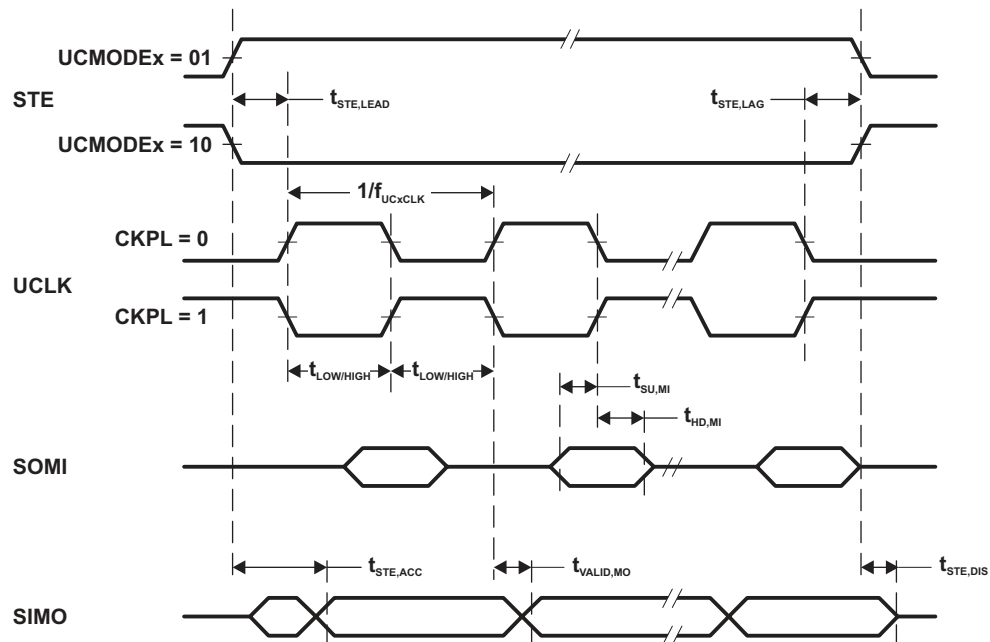
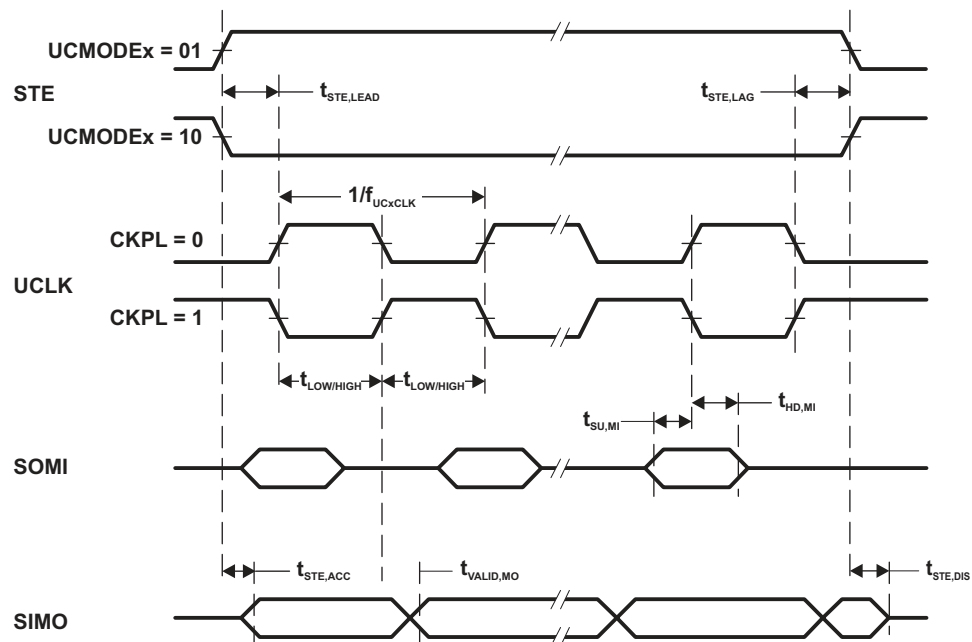

Figure 4-6. SPI Master Mode, CKPH = 0
Figure 4-7. SPI Master Mode, CKPH = 1
- (1)  $f_{UCxCLK} = 1/2t_{LO/HI}$  with  $t_{LO/HI} = \max(t_{VALID,MO(eUSCI)} + t_{SU,SI(Slave)}, t_{SU,MI(eUSCI)} + t_{VALID,SO(Slave)})$ . For the slave's parameters  $t_{SU,SI(Slave)}$  and  $t_{VALID,SO(Slave)}$  see the SPI parameters of the attached slave.
- (2) Specifies the time to drive the next valid data to the SIMO output after the output changing UCLK clock edge. See the timing diagrams in Figure 4-6 and Figure 4-7.
- (3) Specifies how long data on the SIMO output is valid after the output changing UCLK clock edge. Negative values indicate that the data on the SIMO output can become invalid before the output changing clock edge observed on UCLK. See the timing diagrams in Figure 4-6 and Figure 4-7.